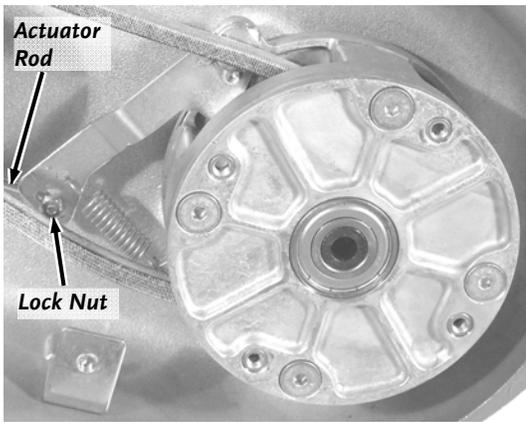

Figure 36
4. Using a 3/8" Socket, remove the Lock Nut from the Brake Actuator Rod and remove the Rod from the Brake Arm (**Figure 36**).